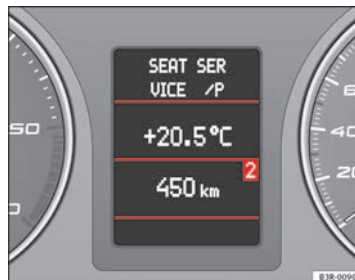

Fig. 65 Driver information system
- Press the **(MODE)** button (B) repeatedly to switch between modes, which are then displayed in the driver information system ⇒ fig. 65.
- Scroll and press the left thumbwheel (A) to select a function from one of the menus.
- The speech control system* for the on-board phone system is enabled by pressing the talk button (C). Pressing the talk button again disables speed control*.
- Scroll the right thumbwheel (D) up/down to increase/decrease the volume.